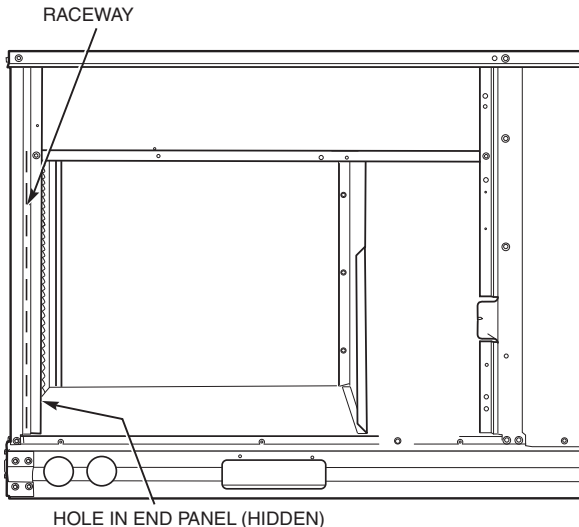

Fig. 40 — Field Control Wiring Raceway
Pass the thermostat control wires through the hole provided in the corner post; then feed the wires through the raceway built into the corner post to the control box. Pull the wires over to the terminal strip on the upper-left corner of the Controls Connection Board. See Fig. 40.
2. Feed wires through the raceway built into the corner post (see Fig. 40) to the 24-v barrier located on the left side of the control box. The raceway provides the UL-required clearance between high-voltage and low-voltage wiring.